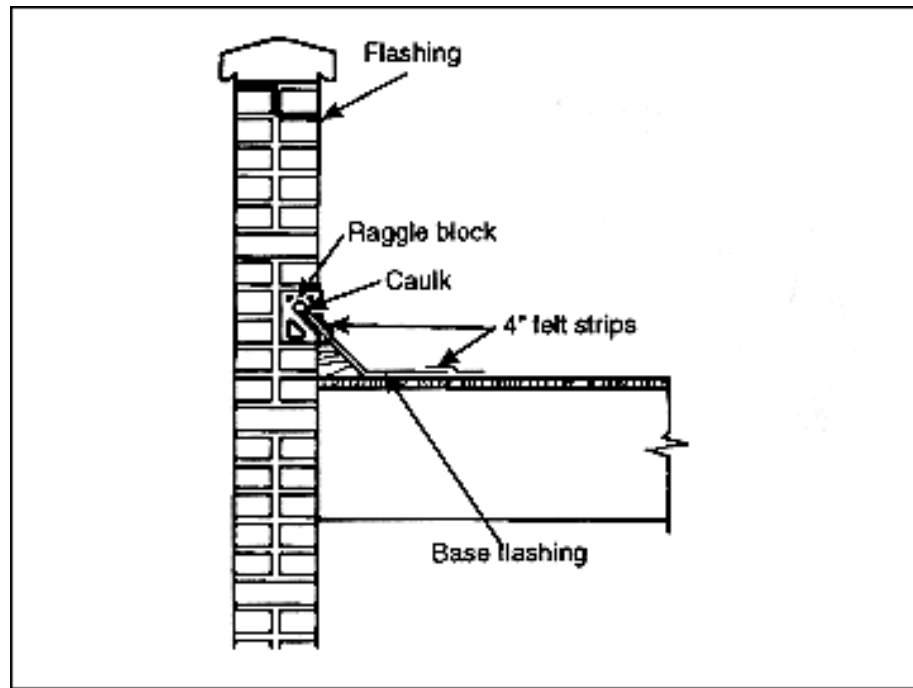

Figure 9-43. Flashing installation at intersection of roof and walls
Step 3. Figure 9-43 shows how to install flashing between the roof and the wall to prevent leakage at the intersection. Fit and caulk the upper end of the flashing into the groove of the raggle block as shown in Figure 9-43.